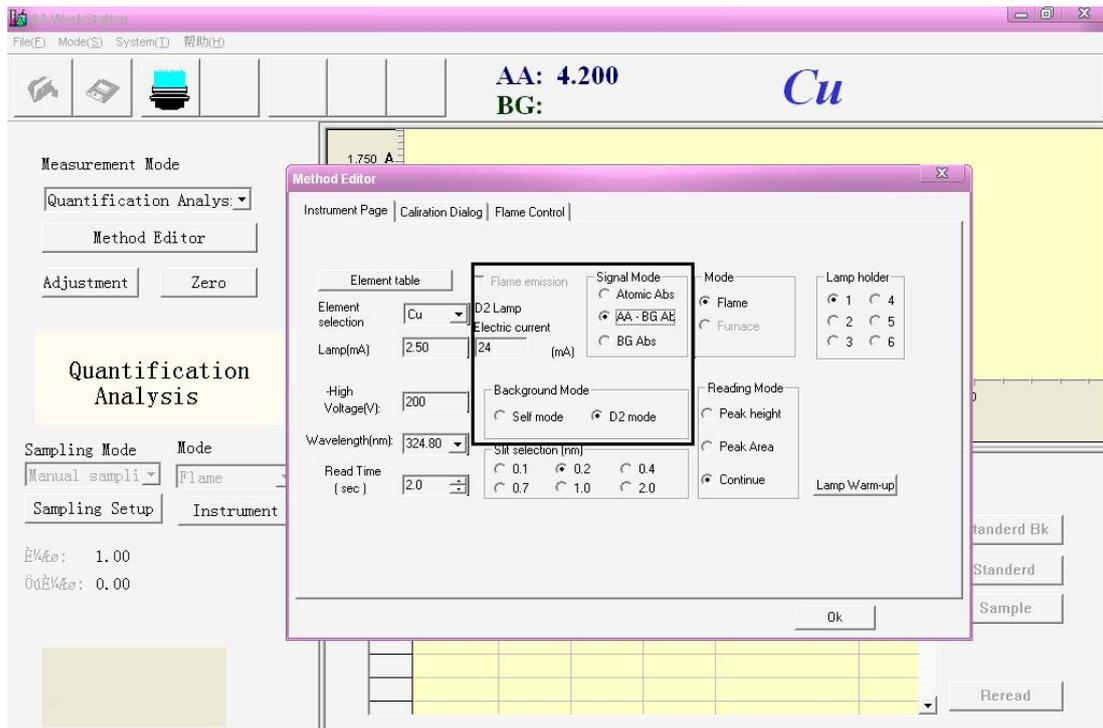

Figure 4-20
b. Select the "AA-BG AE" (as shown in Figure 4-20), "Background Mode", "Self mode" or "D2 mode" is valid, the "Flame emission" is gray